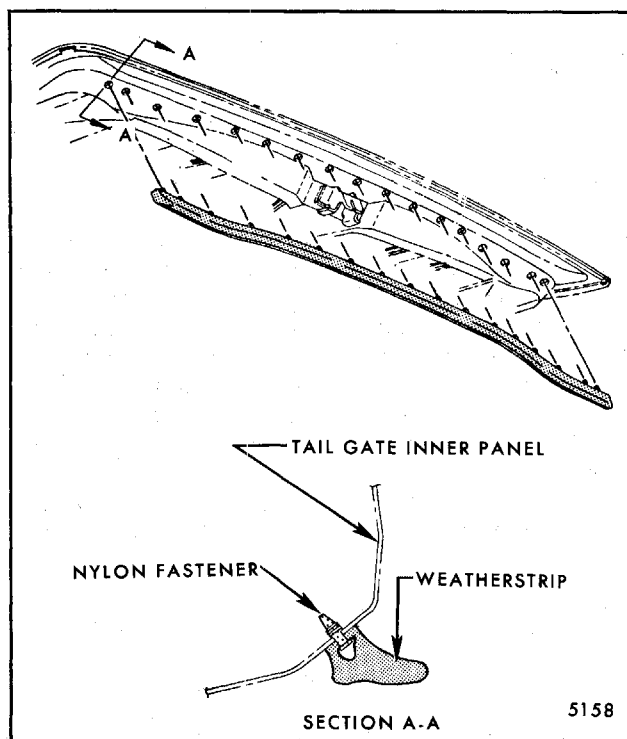

Fig. 7-99-Tailgate Lower Weatherstrip Installation
component part of the weatherstrip and are used to secure it to the lower section of the tailgate (Fig. 7-99).
2. To install, align weatherstrip (sealing lip rearward - Section A-A, Fig. 7-99) fasteners to piercings in tailgate panel and press into position.